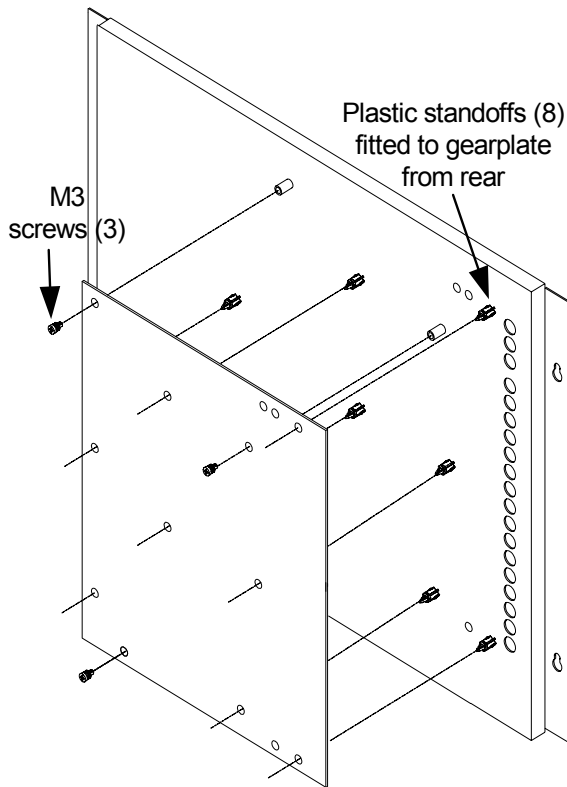

Figure 2 - Mounting the new Master Board on the new Gear Plate
2. Mount new Master Board onto the new gearplate as in Figure 2.